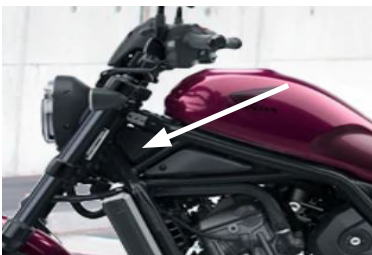

figure 1
1. Per your factory authorized service manual, drain your brake fluid from front brake reservoir & brake line. Locate the ABS block where the 2-piece brakeline meet. The ABS block is located behind the steering tube, behind the left side cover, indicated by the arrow in Figure 1, also remove the corresponding cover on the right side (you'll see the brake line coming out of it).